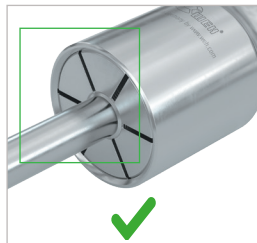
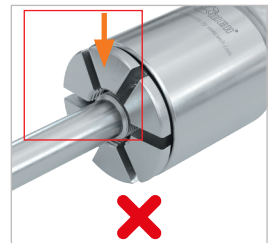

Figure 4
Figure 5
- The outer edges of the external diameter of the clamping jaws must no longer be visible (Figure 4 and Figure 5 on page 18).
Attention: If the connector does not click into place and the outer edges of the collet diameter are visible, the connector is not properly connected. The connector may disconnect and medium may escape (Figure 5).